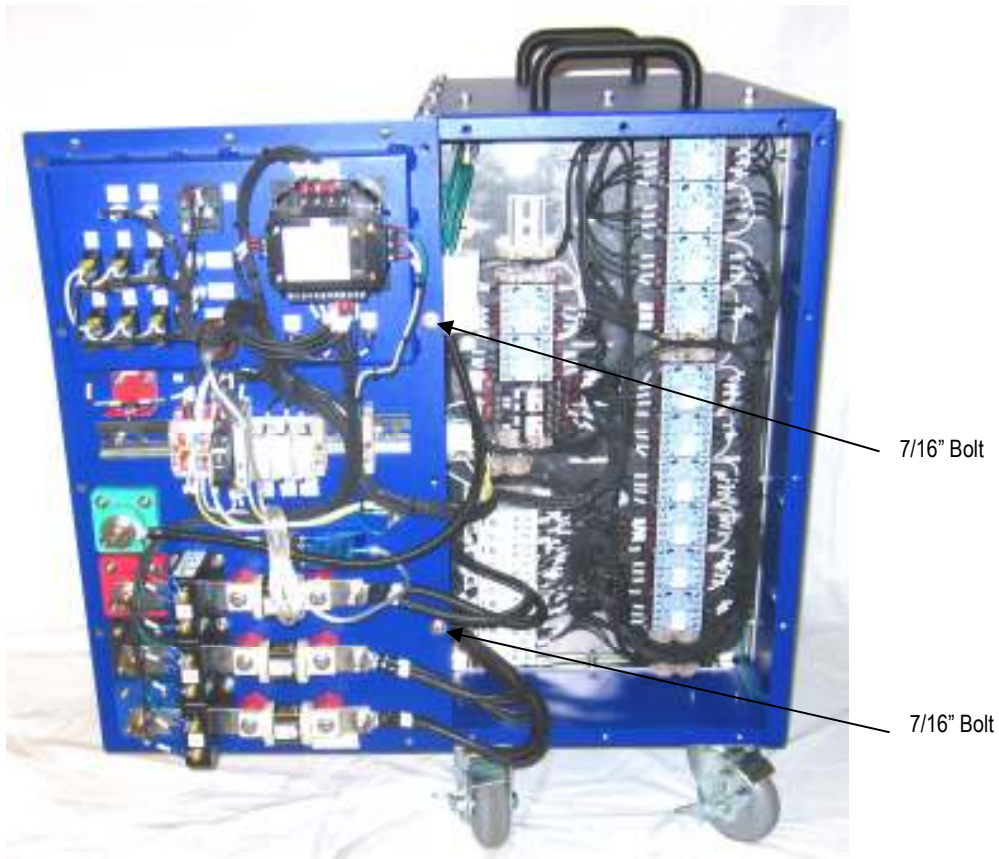

Figure 9
2. Gently remove the front of the unit and rotate it outward to the left. Do this slowly as to not damage the internal wiring. (See Figure 9)